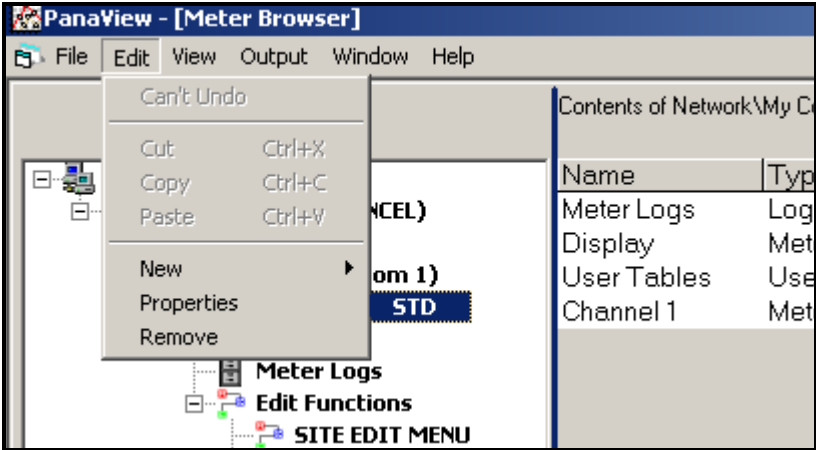

Figure 49: The *Properties* Option
- 2. Right-click on the highlighted XGS868i and select the *Properties* option, as shown in Figure 49.